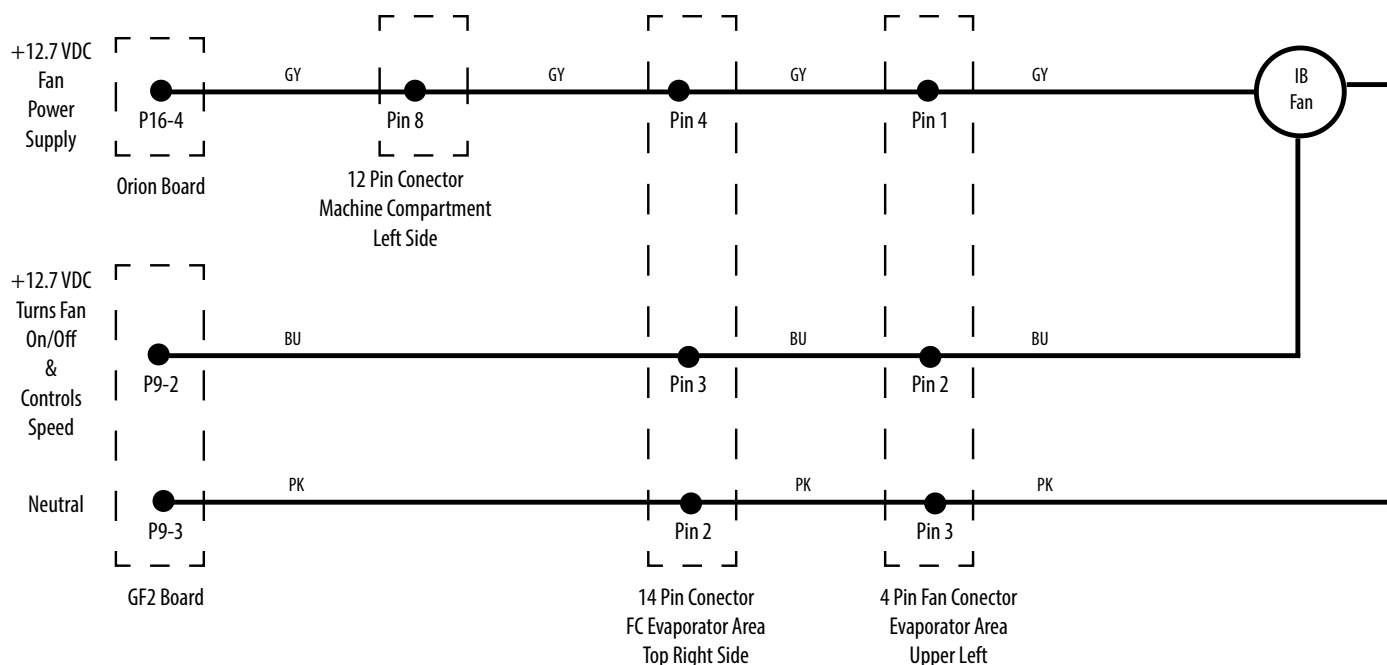

FIGURE 17: IB Fan Electrical Diagram
- Check all wiring connectors tight (FIGURE 17).